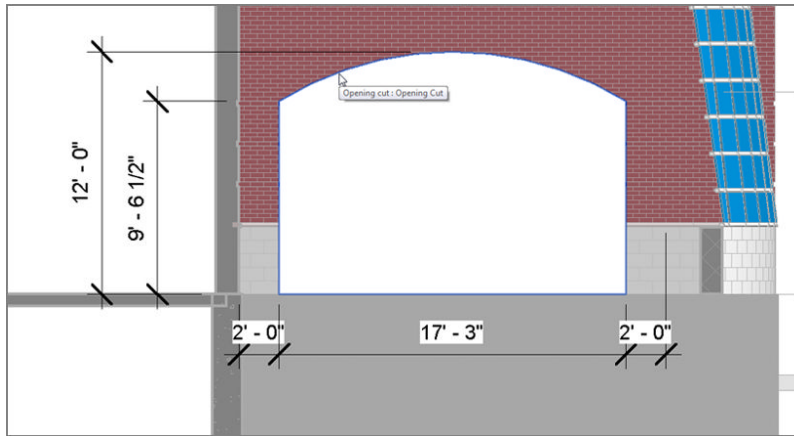

FIGURE 17.29: The arched opening
9. Sketch an opening, as shown in Figure 17.29.